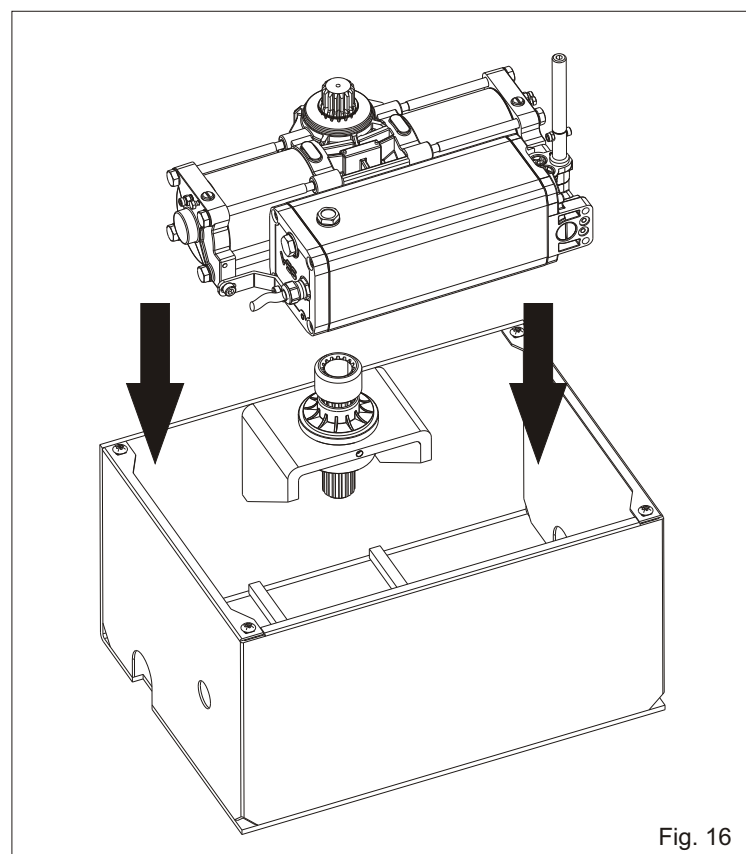
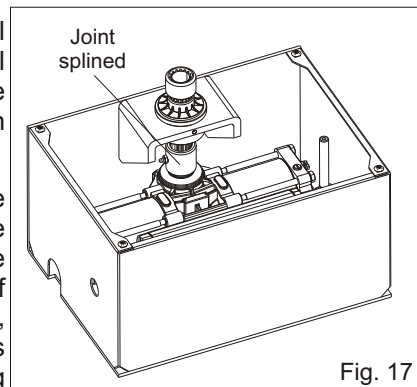

Fig. 16
Fig. 17
4.3. Put the operator inside the carrying box by hand (Fig. 16) and couple the pinion of the operator with the pinion of the box using the jointed splined bush (Fig. 17).